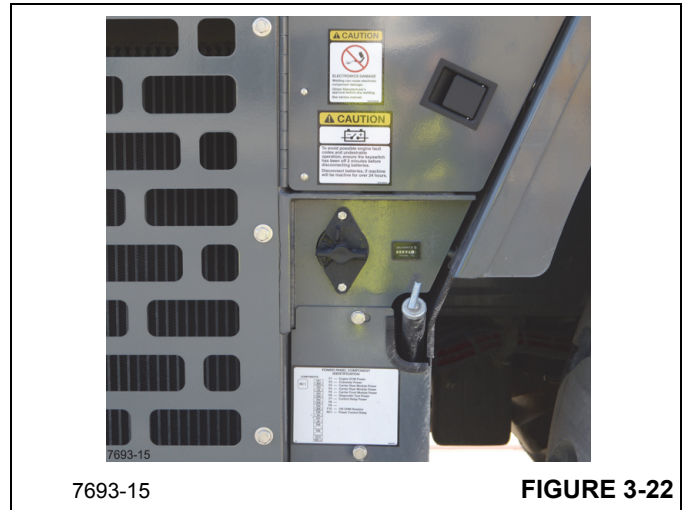

FIGURE 3-22
13. Turn Battery Disconnect to OFF position if machine will be inactive for over 24 hours (Figure 3-22).